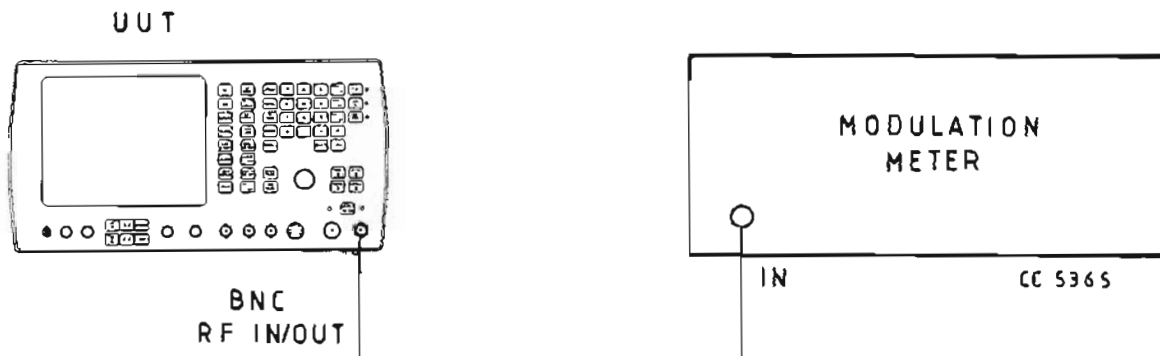

Fig. 22 Test equipment connections for r.f. generator a.m. & f.m. internal accuracy performance checks
- (1) Connect the equipment as shown in Fig. 22.
- (2) Set the u.u.t. to RX, RF GEN, carrier frequency 100 MHz, level 0 dBm, f.m. frequency 1 kHz, modulation level 25 kHz, distortion/SINAD/SN off, b.n.c. output socket.
- (3) Set the modulation meter to monitor f.m. with 0.3-3.4 kHz band-pass filter selected.
- (4) Check that the f.m. deviation indicated on the modulation meter is within $\pm 7\% \pm 10$ Hz.
- (5) Repeat the above at random deviations between 0 and 25 kHz, and random carrier frequencies between 0.5 and 1000 MHz.
- (6) Repeat for modulation rates between 50 Hz and 15 kHz and check that the modulation meter deviation reading is within $\pm 10\%$. Ensure that the correct filters are selected on the modulation meter according to the modulation rate being used.